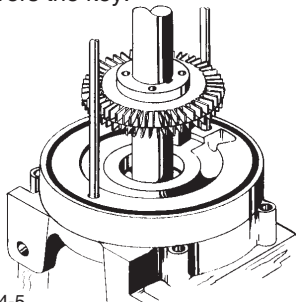

Figure 4-5
- Slide an impeller (#11) onto the shaft (#17) and over the key (#23) nearest the drive end.(refer to figure 4-5) Place the impeller-shaft assembly into the ring, with the shaft extension down. If the blocking is the correct height, the shaft end should contact the bench at the same time the impeller covers the key.